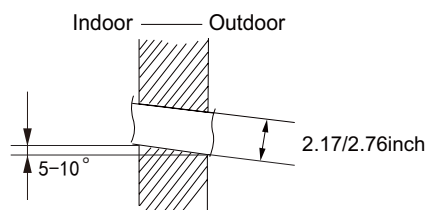

Fig.2
(2) Open a piping hole with the diameter of 2.17/2.76inch on the selected outlet pipe position. In order to drain smoothly, slant the piping hole on the wall slightly downward to the outdoor side with the gradient of 5-10°.(As show in Fig.2)